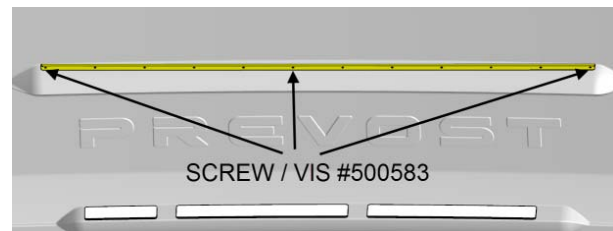

FIGURE 28
- Preinstall the drip edge using three (3) screw #6x1/2 (#500583), see FIGURE 28.